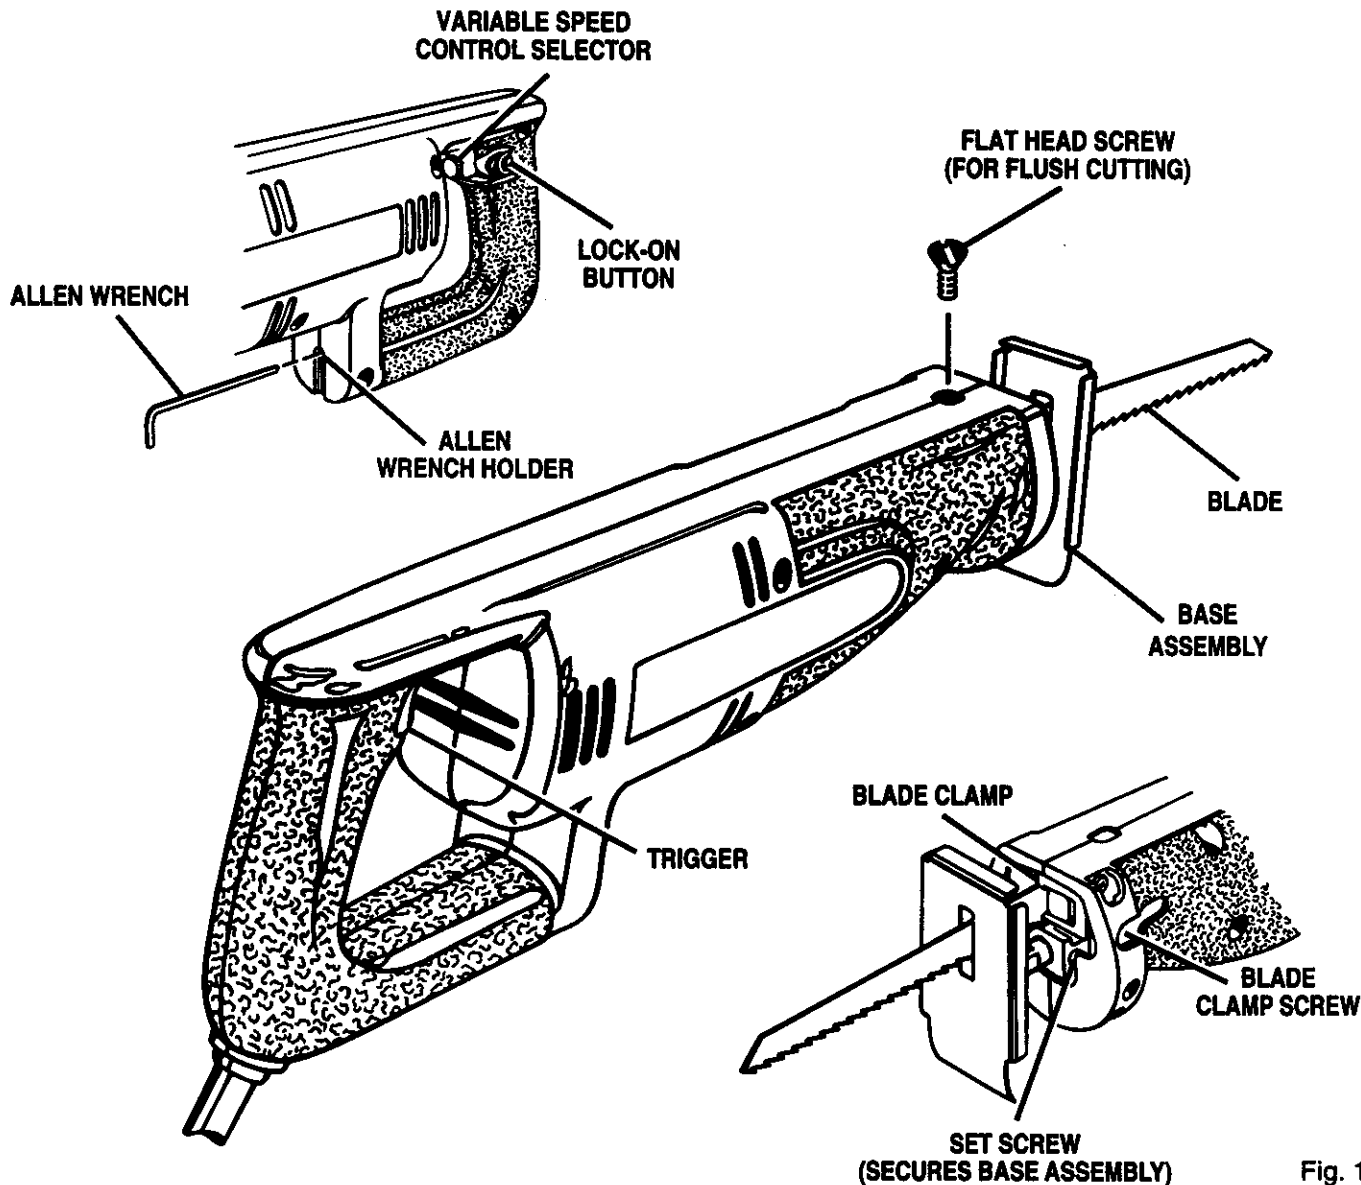

Fig. 1
See Figure 1.
- Remove the 5/32 in. Allen wrench provided with this saw from Allen wrench holder. **Note:** Allen wrench holder is located in bottom portion of saw handle. See Figure 1.